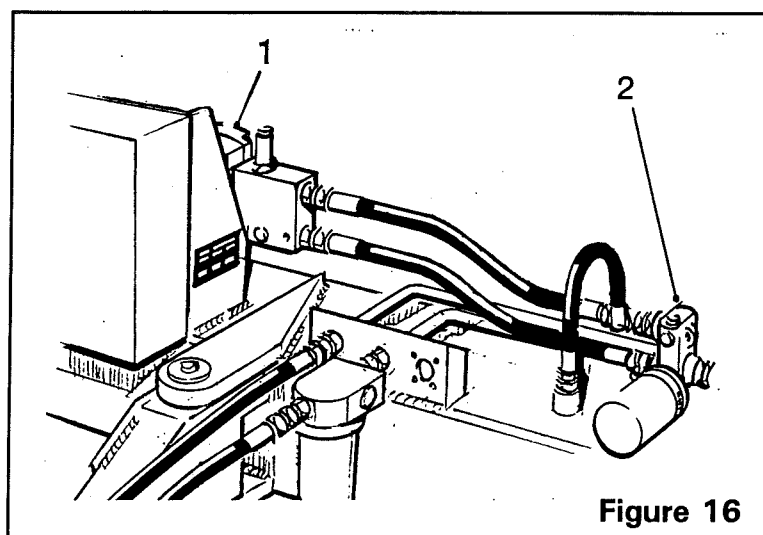

Figure 16
The hydraulic pump (item 1, figure 16) produces a flow rate of 21 gallons/minute at 540rpm PTO speed. This flow allows for a maximum roller speed of 420rpm. The roller speed can be increased or decreased by operating the switch marked
**'Separator Speed Increase/Decrease'** on the harvester control box mounted at the rear of the machine. The switch activates the motorised flow divider (item 2, figure 16) mounted on the front of the harvester.